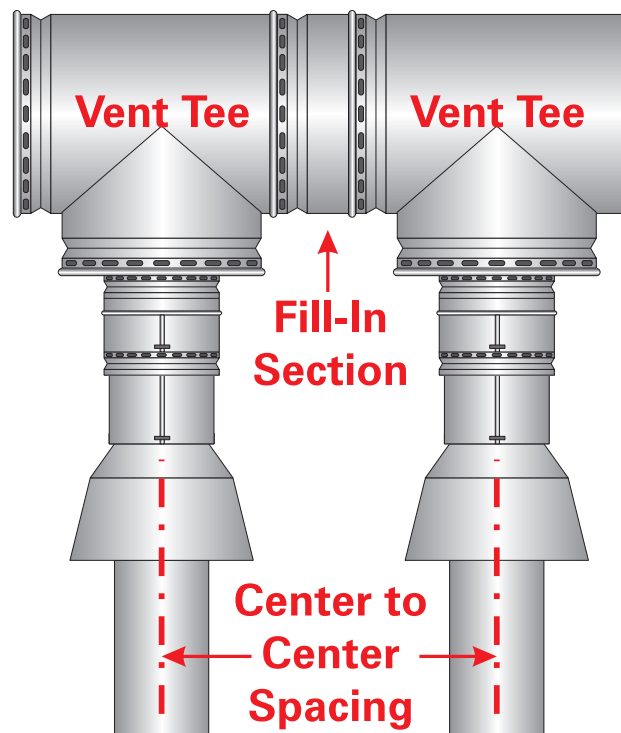

Figure 3.2: Consider Minimum Centers for Vent System when Laying Out Boiler Plan
- a) Consider the minimum required spacing between tees for the vent system when laying out the boiler plan (Figure 3.2).